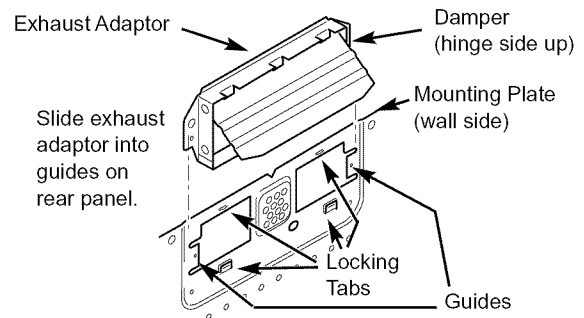

**Figure 28**
1. Place the mounting plate against the rear wall as described in step 5 item 1 (page 15).
2. Using a pencil, put dots through slots "F" and "G", and through holes "H" and "I". Remove the mounting plate and draw lines extending through the points. This will give the location and size of the box cutout for the rear wall duct. See **Figure 28**.